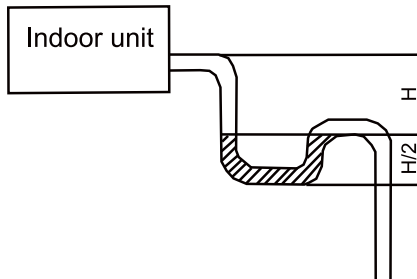

Fig.21
- (4). When the drain hose cannot keep a sufficient gradient, it is necessary to fit a riser pipe (field supplied) to it.
- (5). If the air flow of indoor unit is high, this might cause negative pressure and result in return suction of outdoor air. Therefore, U-type water trap shall be designed on the drainage side of each indoor unit.(Fig.21)
- (6). Install one water trap for each unit.
- (7). Installation of water trap shall consider easy cleaning in the future.